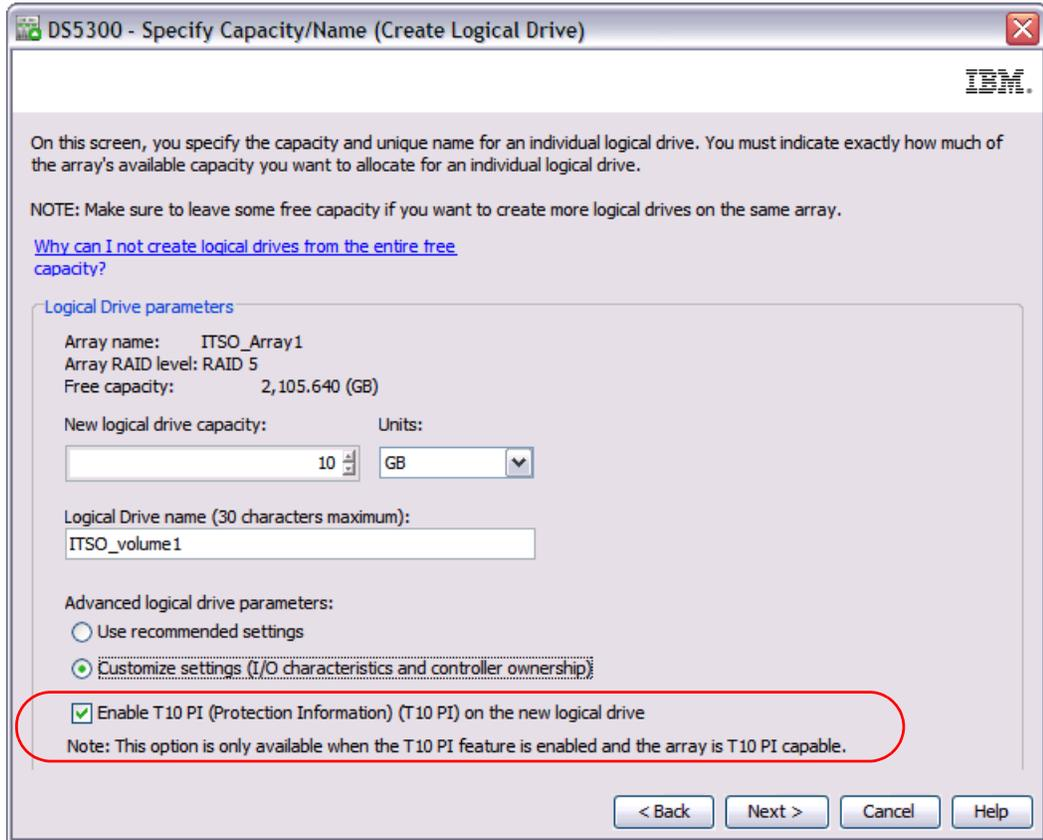

Figure 3-14 Create logical drive wizard
2. Click **Next** to define logical drive properties as shown in Figure 3-14.
To enable T10PI capability, check the box Enable T10 PI (Protection Information) while creating the new logical drive as shown in Figure 3-14.